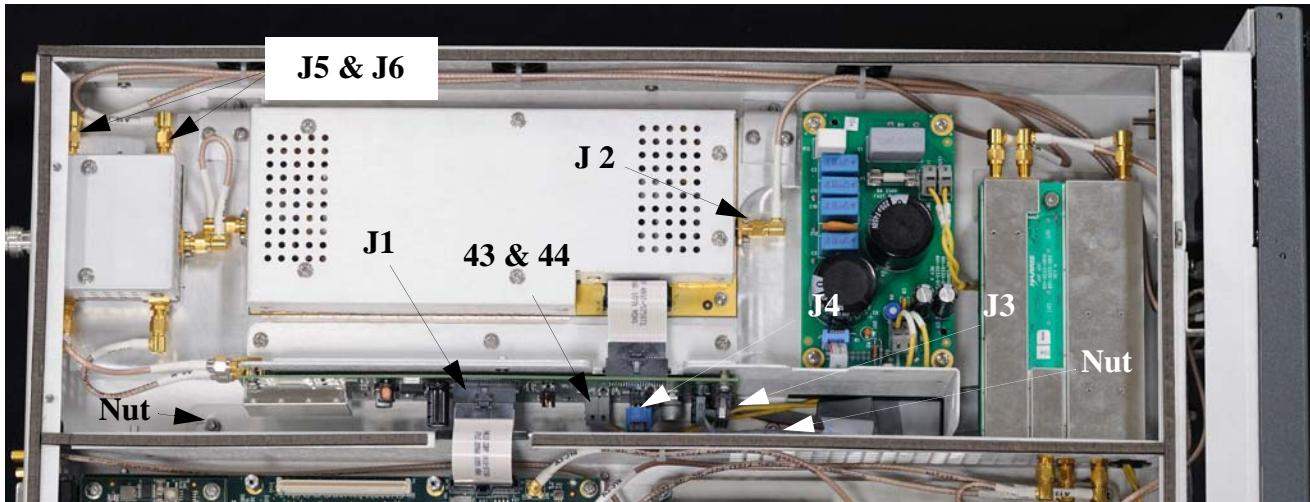

Figure 5-3 Amplifier Compartment
- STEP 6** Remove the two nuts (Figure 5-3) that fasten the PA module to the bottom of the chassis.
- STEP 7** Disconnect ribbon cable from PA interface board (J1) shown in Figure 5-3. The ribbon cable should be pulled back through the interface board (out of the PA section) and secured to keep it out of the way during module removal.